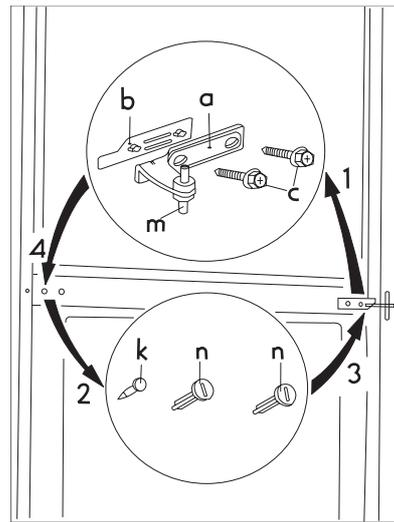

fig. 2.
3. Open the doors and dismantle the double door hinge (a,b) by removing the screws (2 pieces) (c). (fig. 2)
removing it from the cabinet, slightly tilting both doors. Do not forget to remove the plastic spacer (b) under the hinge. (fig. 2)
11. Remove the covering nails (3 pieces) (n,k) of the double door holder on the left side and put them to the other side. (fig. 2)
16. Fit the pin of the double door hinge (m) into the left hole of the freezer door. (fig. 2)